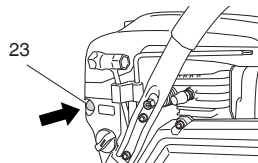

Fig. 24
3. Push the priming pump (23) approximately ten times so that the fuel flows into the carburetor. (Fig. 24)